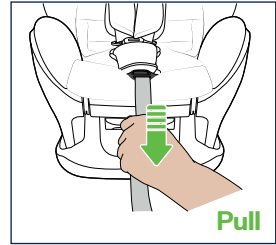

Figure 24
Step 2. Once slack is removed, pull on adjuster strap so that the harness over the shoulders is firm (Figure 24).